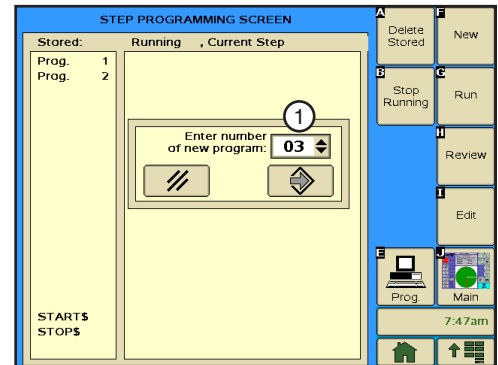

Figure 149-2 1. New Program Number Field
1. Push **Prog.** and **Step Prog.** to view the Step Program screen. Refer to Figure 149-2